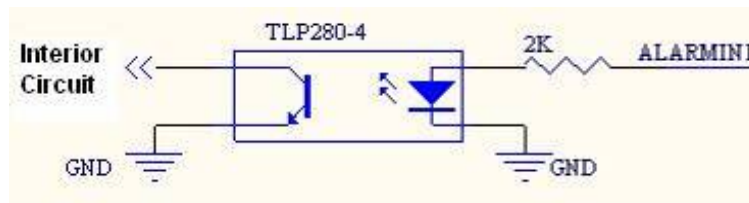

Figure 2-8
- Please refer to Figure 2-8 for alarm input module information.